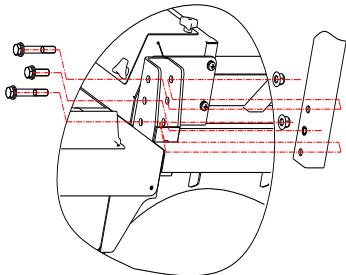

Fig. 3 Installation of Posts
- Install the posts as shown in Fig. 3;